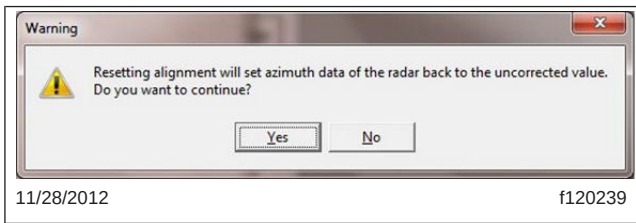

Fig. 8, Reset Warning Dialogue Box
8. Click "Yes" when asked to reset to an uncorrected value. See Fig. 8.